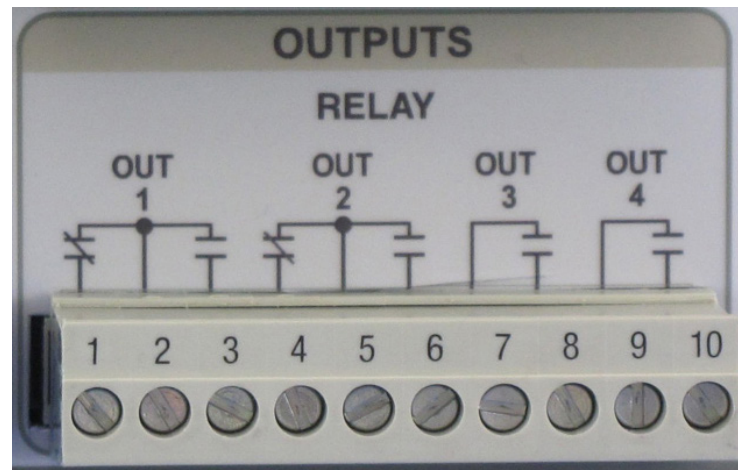

FIG 32
B. Outputs. Refer to **FIG 32** (close up view of Output relays)